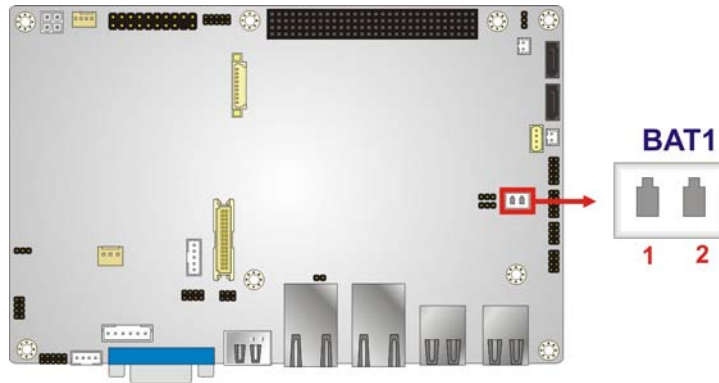

Figure 3-4: Battery Connector Location
- CN Location:See **Figure 3-4**